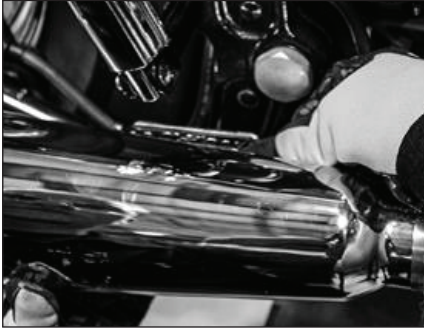

Fig 8a
9. Install the muffler to the head pipe assembly using the 2.25 inch muffler clamp. Attach the muffler to the mounting bracket using the two 3/8-16 x 5/8 inch bolts and 3/8-16 nut plate (Figure 8a, 8b). Do not tighten the nuts at this time to allow for adjustment.